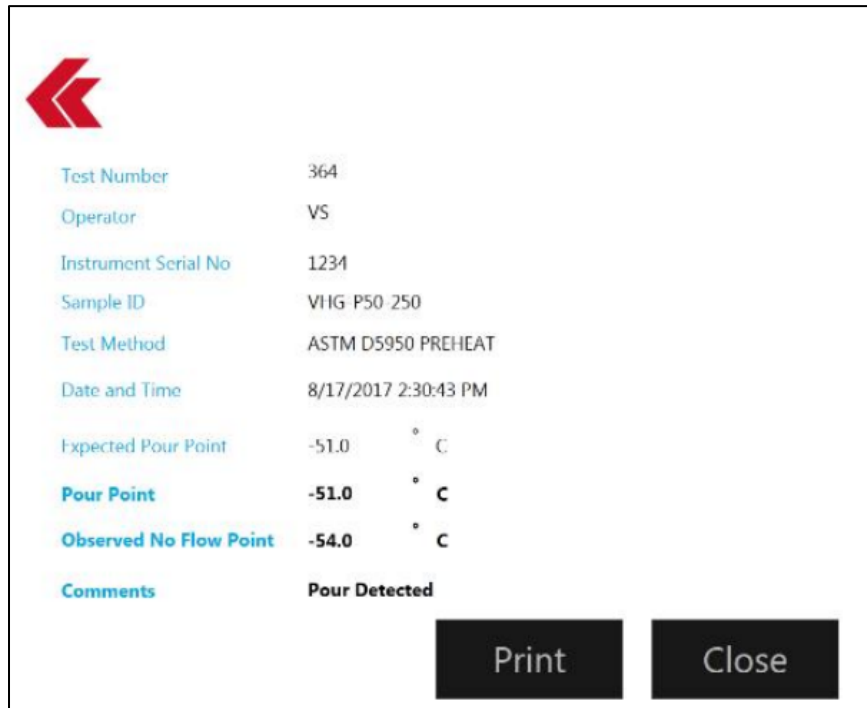

Figure 18. Print Results Screen
- When the test is complete you will have the option to print the results. Figure 18 shows a preview of the Print Results Screen.